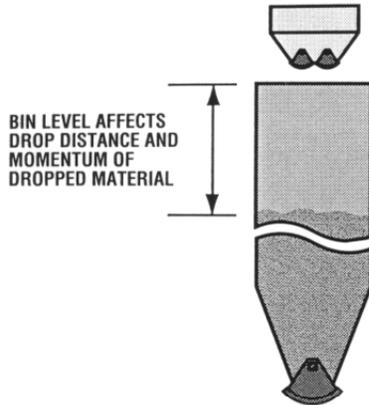
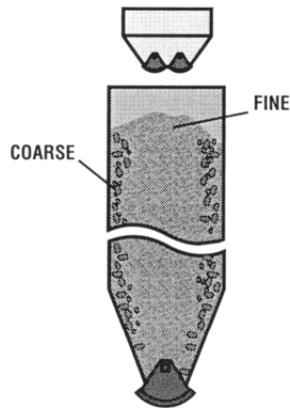

Figure 31. Bin Batcher Drop Distance.
Figure 32. Bin Kept Too Full.
e. When utilizing a bin loading batcher, the emptier the bin, the farther the fall of the material and the more likely a level, uniform bin loading will occur (see Figure 31). The worst situation when operating a bin loading batcher is to have the bin material level consistently near the top (see Figure 32). The mix drop then has insufficient momentum and results in peaks of material instead of splattering the material to form a level surface. The rules for correct batcher operation are summarized in Figure 33.